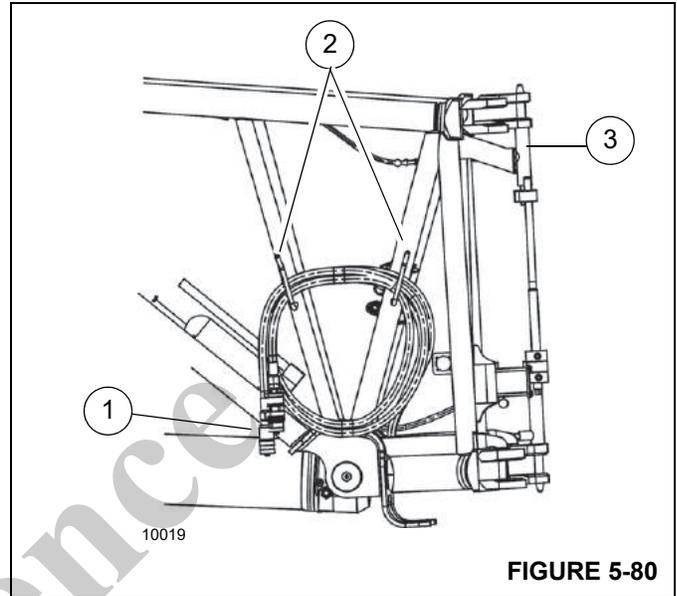
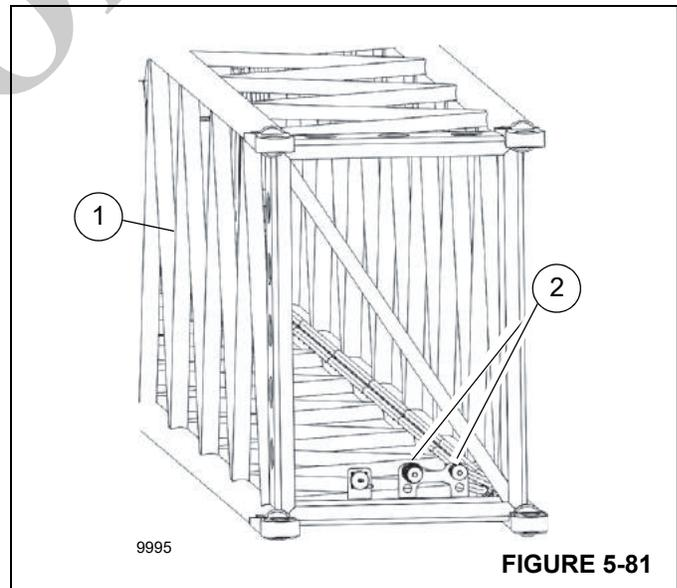

FIGURE 5-80
FIGURE 5-81
1. Remove the long hoses (1, Figure 5-80) from the holders (2) on the boom extension (3).
2. Remove the protective caps from the hoses (1).
3. Route the hoses (1, Figure 5-80) to the front of the lattice insert (1, Figure 5-81).
4. Remove the protective caps from hydraulic hose connectors (2) on the lattice insert (1).
5. Connect the boom extension hoses (1, Figure 5-80) to the hydraulic hoses on the lattice insert (2, Figure 5-81).
1. Disconnect the boom extension hoses (1, Figure 5-80) from the hydraulic connectors (2, Figure 5-81) on the lattice insert (1).
3. Secure the boom extension hoses (1, Figure 5-80) to the hooks (2) on the boom extension (3).